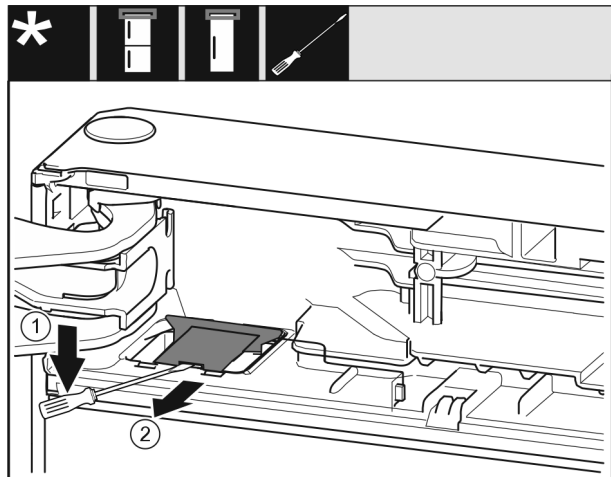

Fig. 9
- ▶ Unlatch the cover with a slotted screwdriver and lift it up. Fig. 9 (1)
- ▶ Take out the cover. Fig. 9 (2)